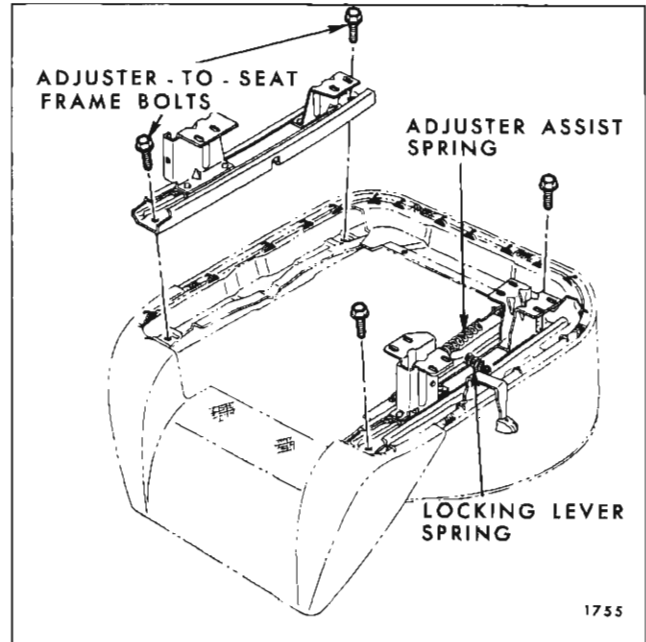

Fig. 1H21—Bucket Seat Adjuster
2. If adjuster to be replaced is equipped with an assist spring, remove spring from adjuster (Fig. 1H21).